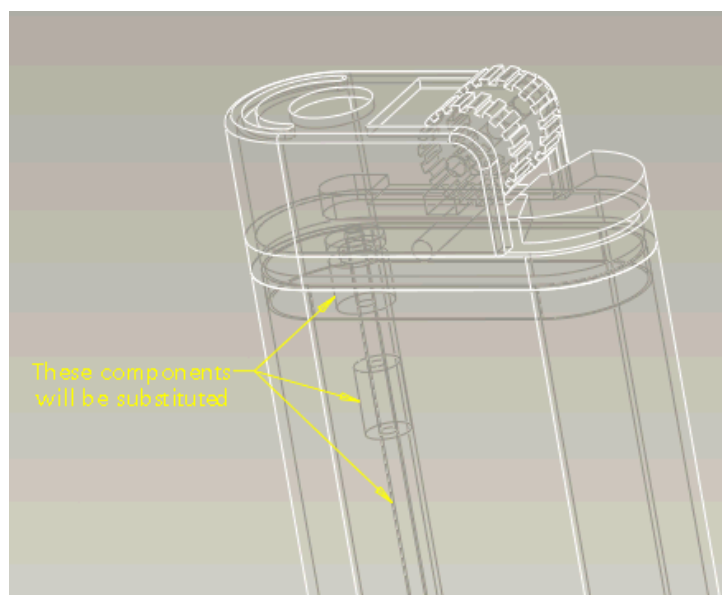

Figure 6
5. The second major technique involving envelopes is to create some very simple geometry to represent one or more complex parts. The front part of the lighter contains many small parts, as shown in Figure 6. The display of the assembly would be simpler if those parts were represented by one cylindrical protrusion. Click View > Envelope Manager > New and create an envelope called "tubes". This envelope will be substituted for the small components in a simplified representation.